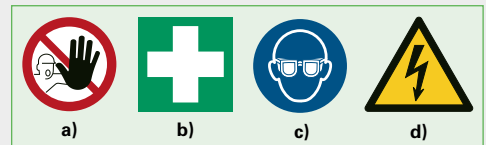

Figure 2: Safety symbols
16. Name the safety symbols depicted in **Figure 2**, and describe their meaning.